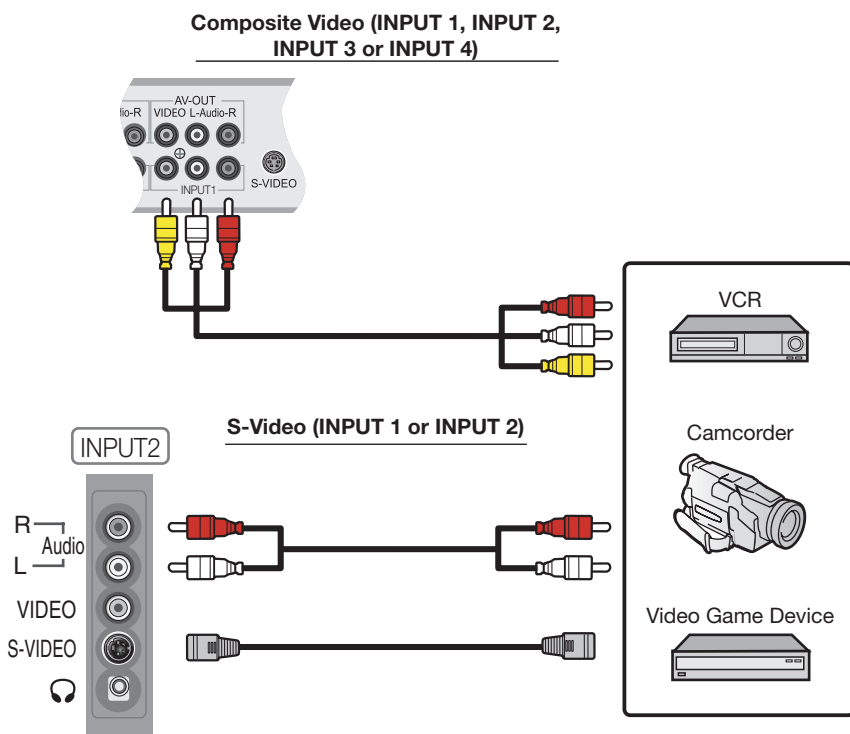

Figure 3-5. Composite and S-Video Connections
Composite/S-Video Connections: The DView has two (2) S-Video and four (4) composite video inputs for connecting a VCR, camcorder, laser disc player or DVD player; see Figure 3-5.